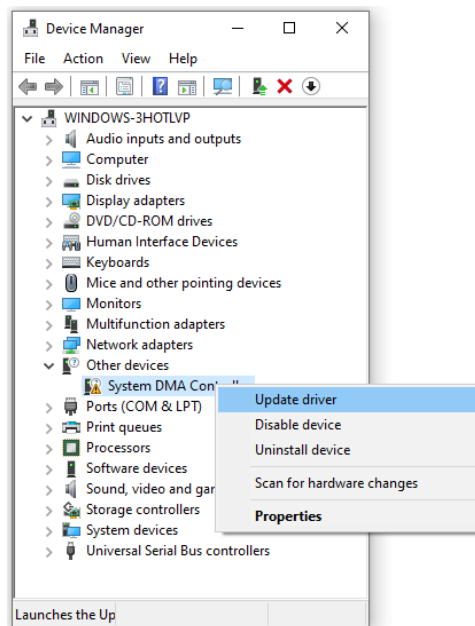

Figure 4-9. Device Manager dialog
4. In the **Device Manager** (see Figure 4-9):